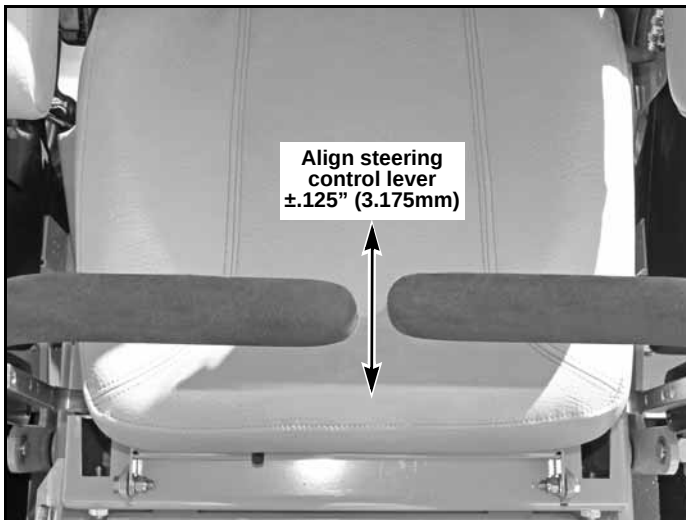

Figure 5-9
2. The steering control levers should be adjusted so that they align vertically with each other when in the neutral position. Figure 5-9